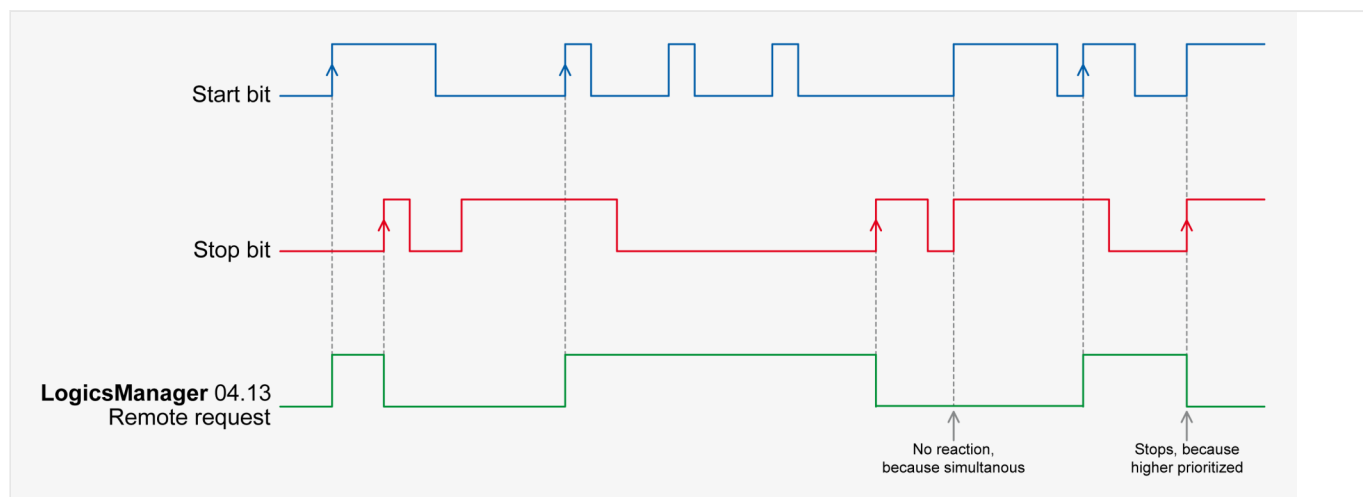

Fig. 252: Command variable
- The command variable "04.13 Remote request" changes to "0" (low) if the stop bit (ID 503, bit 1) changes from "0" to "1" (➡ Fig. 252).